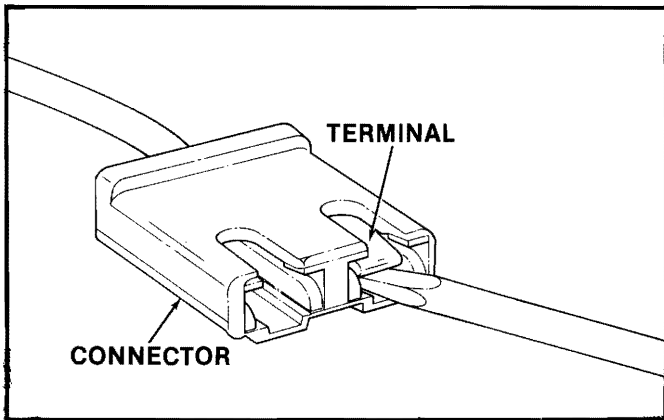

Figure 4—Removing Terminals from Connector
TERMINAL REPLACEMENT (Figures 4, 5, 6, and 7)
1. In removing the blade type terminal from the connector, disengage the connector lock tangs and separate. Insert a thin bladed instrument under the mating end of the connector terminal and pry on the terminal as shown in figure 4. Be careful not to damage the connector. Pull the wire and terminal from the connector.